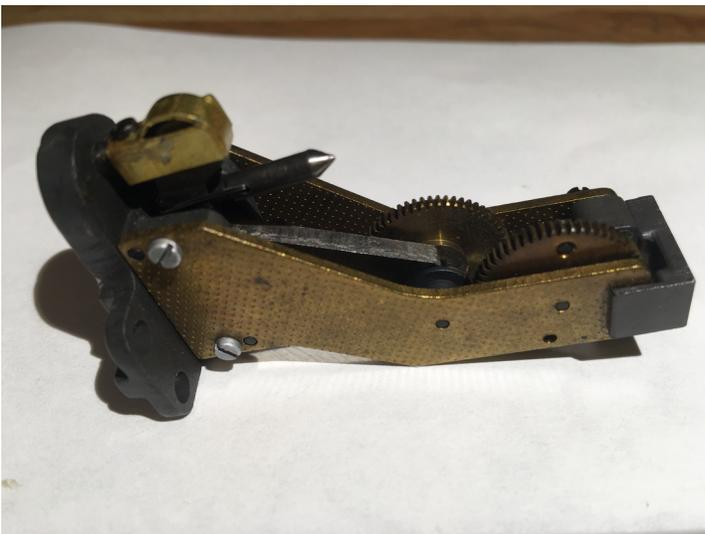
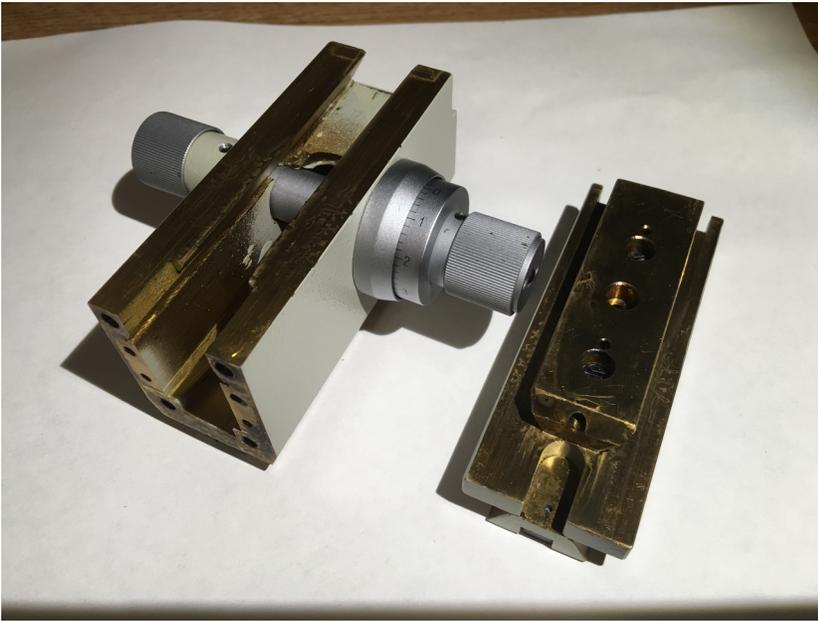

Figure 9
Figure 10
* Lift the black plate straight up to remove the fine-focus gear cluster from the focus block. This gear cluster should already be clean and free of any grease or oil. (Figure 8, Figure 9)
Notice the pointed steel pin. The gears raise and lower this pin to push a fine-focus dovetail slide up and down. The fine-focus dovetail slide has a hole in the end to receive this pin. (Figure 9)
* The fine-focus dovetail slide [part on the right] must be removed from the focus block by sliding it down toward the bottom of the focus block. Remove it from the bottom. (Figure 10)
Notice the hole drilled into the bottom end of the upper dovetail. (Figure 10) That hole receives the steel pointed pin of the fine-focus gear cluster. (Figure 9) Set the fine-focus slide aside.